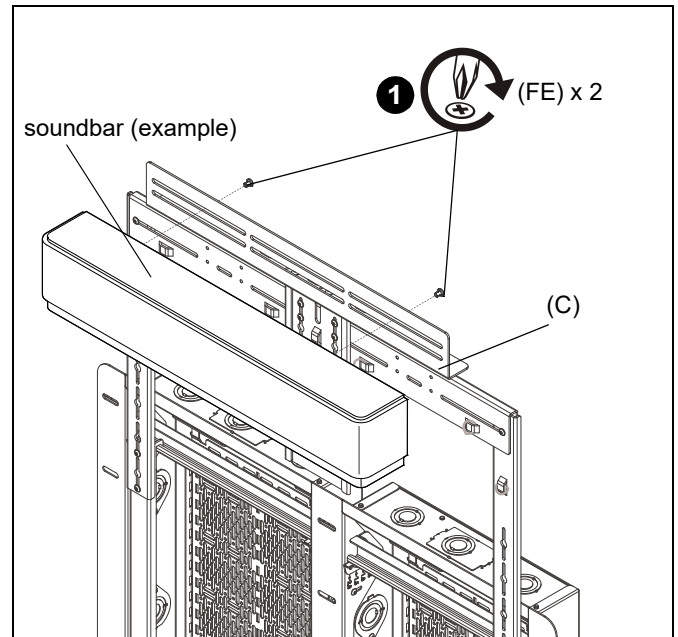

Figure 11
- Use 1/4-20 x 1/2" button head cap screws (FE) or hardware supplied with soundbar to secure soundbar from back to soundbar bracket (C). (See Figure 11)